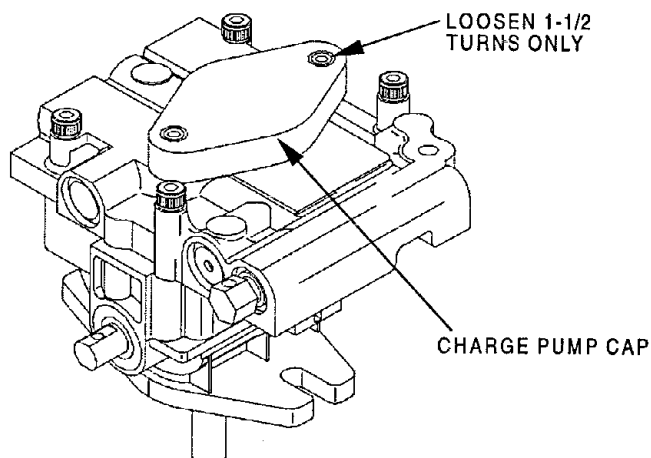

FIG. 6
- g) If either drive wheel does not rotate, one or both of the charge pumps (located on the top of the main pump as shown in Figure 6) may have lost their "prime". Refer to Section 5.1.10.
The critical area for purging air from the hydraulic system is between the oil reservoir and each charge pump located on the top of each variable displacement pump. (See Figure 6).
- e) To "prime" charge pump, loosen two hex socket head capscrews (shown in Figure 6) **1-1/2 turns only. Make sure engine is not running.** Lift the charge pump housing upward and wait for a steady flow of oil to flow out from under the housing. Retighten the capscrews. Do this for both pumps.